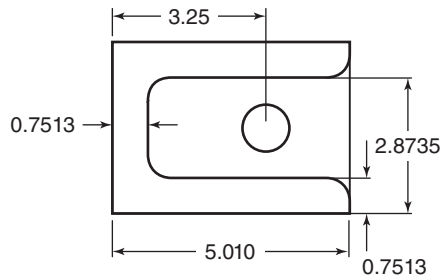

Figure 20-43 Is there more than one reason behind these measurement errors?
- On the first part, the condition shown in Fig. 20-43 is found to be true. What is needed to bring the four key dimensions exactly on target? (LO 20-4)